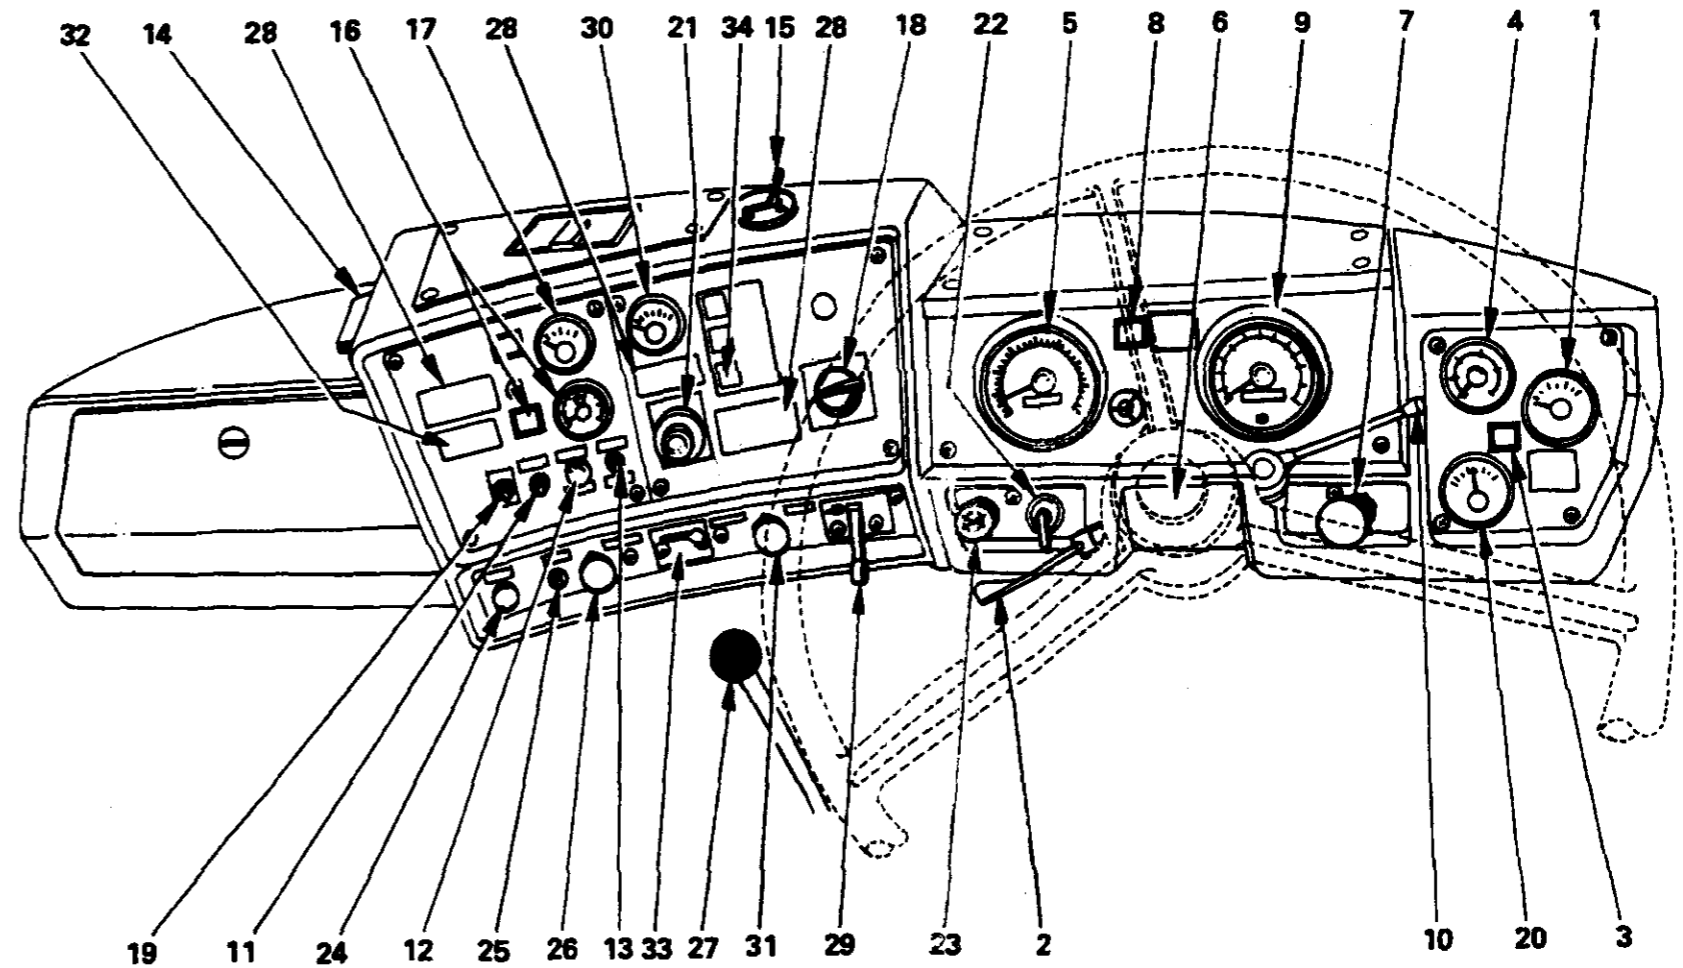

Fig. 7 Instruments, electrical accessories and controls
**91. Air operated windscreen wipers (Fig. 7 item 24)**
- 92. Electric windscreen washers (Fig. 7 item 25)**
- 93. Tractor protection valve (Fig. 7 item 26)**
- 94. Main transmission shift lever (Fig. 7 item 27)**
- 98. Engine operating instruction plates (Fig. 7 item 28)**
- 99. Parking brake (emergency stop) (Fig. 7 item 29)**
- 100. Exhaust pyrometer (Fig. 7 item 30)**
- 101. Reserve air supply (Fig. 7 item 31)**
- 102. Crane operating instruction plate (Fig. 7 item 32)**
- 103. Crane PTO operating lever (Fig. 7 item 33)**
- 104. PTO engagement light (Fig. 7 item 34)**